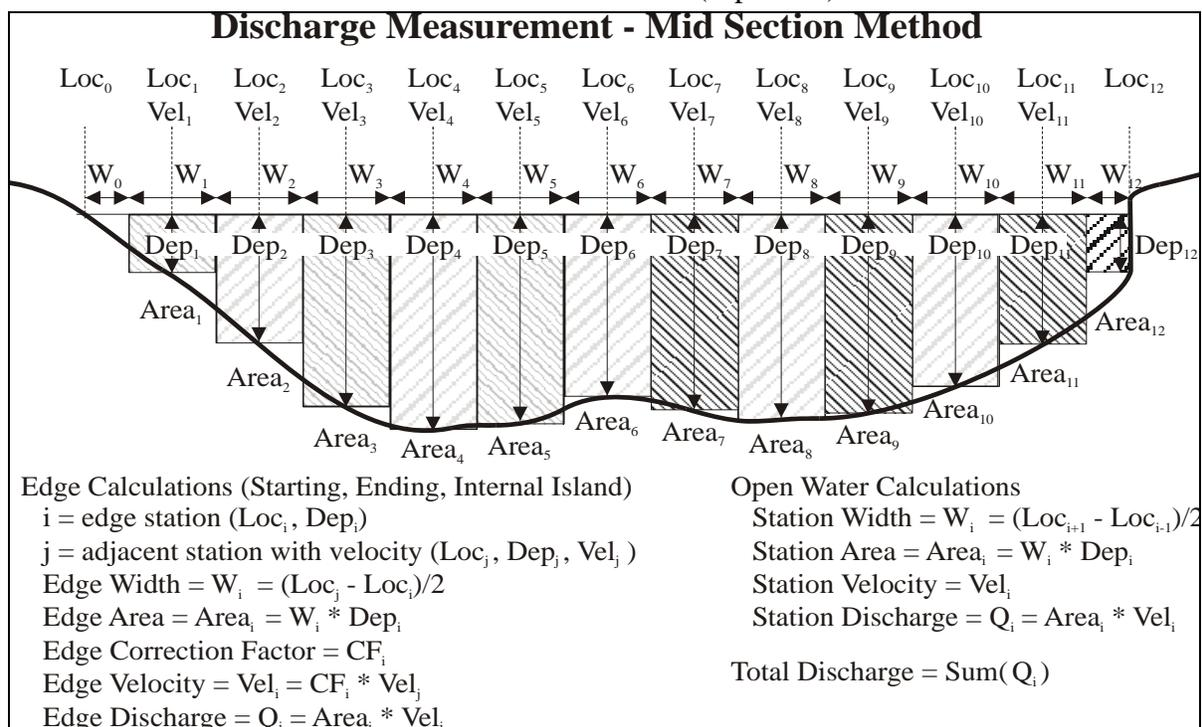

Figure 5 – Mid Section Discharge Equation
- **Figure 5** shows the **Mid Section** equation. In this figure: